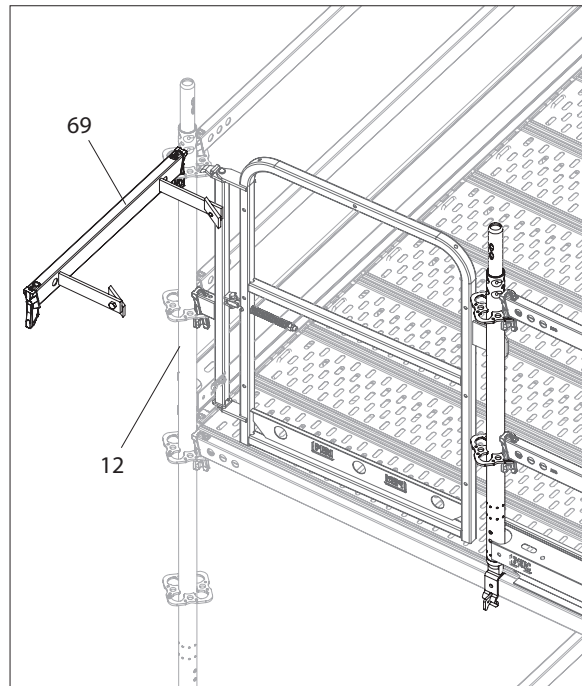

Fig. A9.12a
1. Insert two ladder connectors UAC- 2 (69) into rosettes on torsionally stiff standards (12) and knock wedges into place. (Fig. A9.12a)